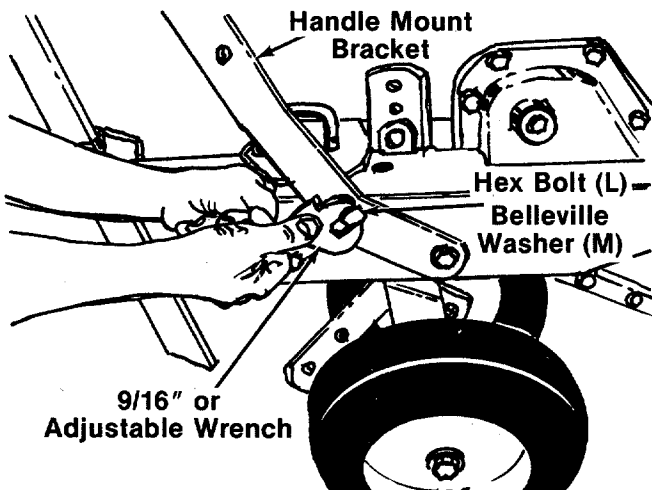

FIGURE 6.
Secure with lock washer (N) and hex nut (O) on the inside of chassis. See figure 6.
This tiller is a variable speed unit. Any movement in the handle (after assembly) may change your speed. The handle mount brackets **must** be as tight as possible. See figure 6.